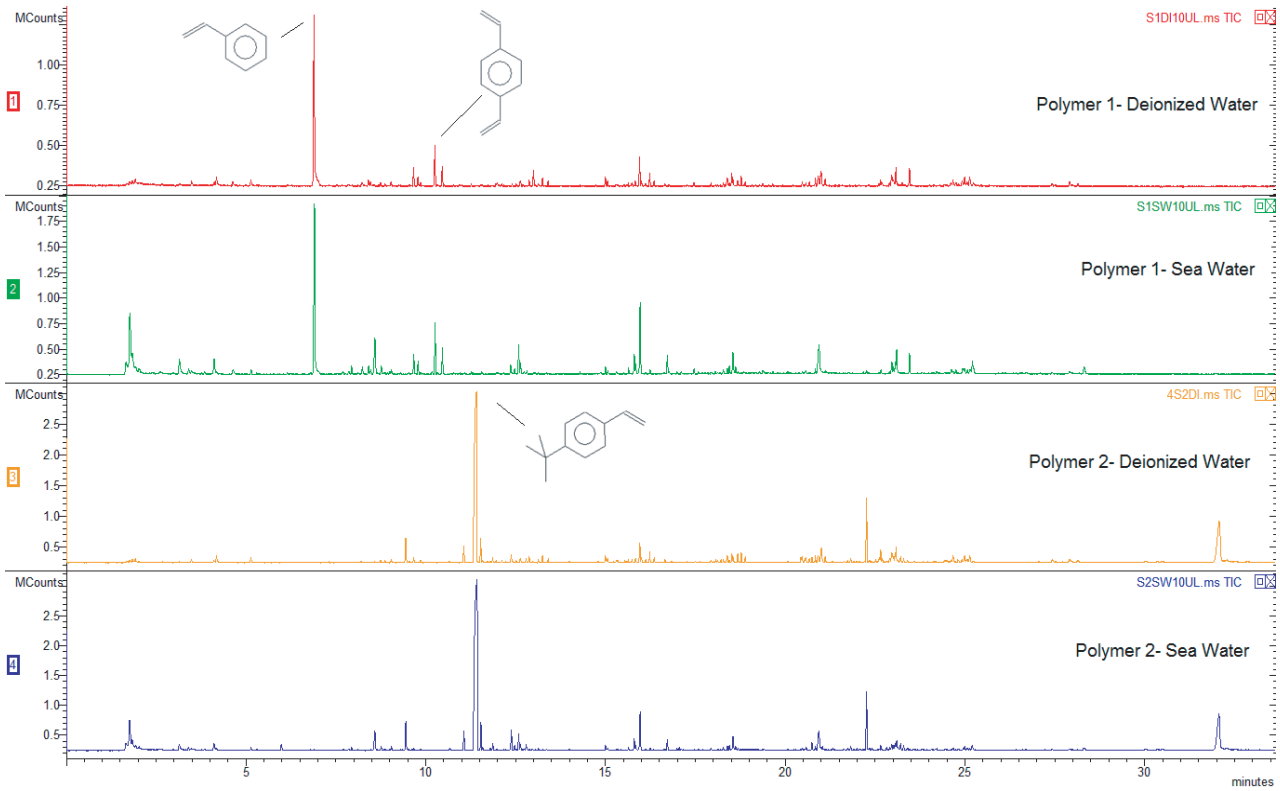

Figure 1: Polymers dissolved in water, dried, then pyrolyzed at 750°C.
In figure 1, two styrenic polymers were dissolved in both deionized water and seawater at about 45000 ppm. Ten (10) microliters of each solution were separately added to quartz wool inside two quartz sample tubes, then automatically dried and pyrolyzed. Each polymer was detectable, and showed patterns which differentiated one from the other.